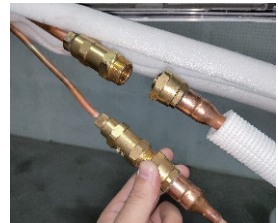
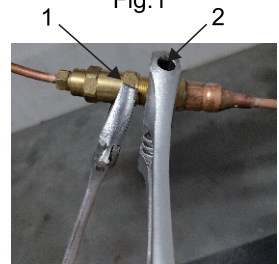

Fig.1
Fig.2
- Depending on the position of the unit, the piping may be routed sideway from the left or the right (Fig. 1), or vertically from the back (Fig. 2) (depending on the pipe length of the indoor unit). The indoor unit will draw it's power from the exterior unit. In the case of sideway routing, cut off the outlet cutting stock of the opposite side.
- Align the refrigerant pipes correctly, make sure the dimensions of the connecting the refrigerant pipe are the same. Place the screw connector on the refrigerant pipes just on to the thread on the indoor equipment and tighten the first few threads by hand. See Fig. 1.
- Hold the points marked “①” using an open-ended spanner and turn the nuts only at the points marked “②” using an open-ended spanner (Select the appropriate spanner according to the dimensions of the connector). See Fig.2.